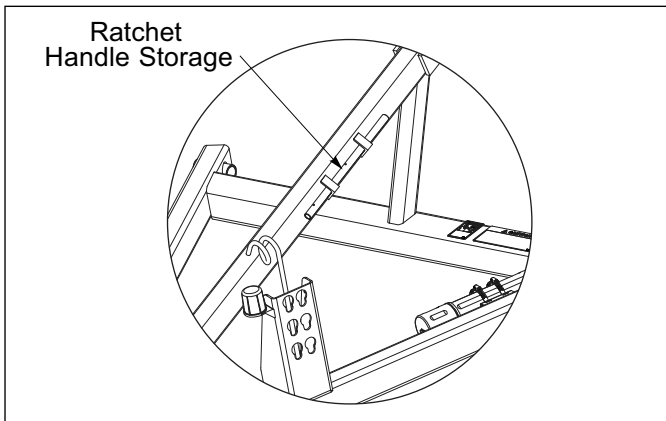

Figure 2-26: Handle Storage
3. Attach the Ratchet Jack between the Upper and Lower Brace Tubes Lugs with 1 x 2-1/2 Clevis Pins and secure with 3/16 x 2 Cotter Pins. Insert Handle into Ratchet Jack and insert Hair Pin Cotter into Handle. When Handle is not in use it is stored in the angles on the side of the Drawbar. **See Figure 2-26.**